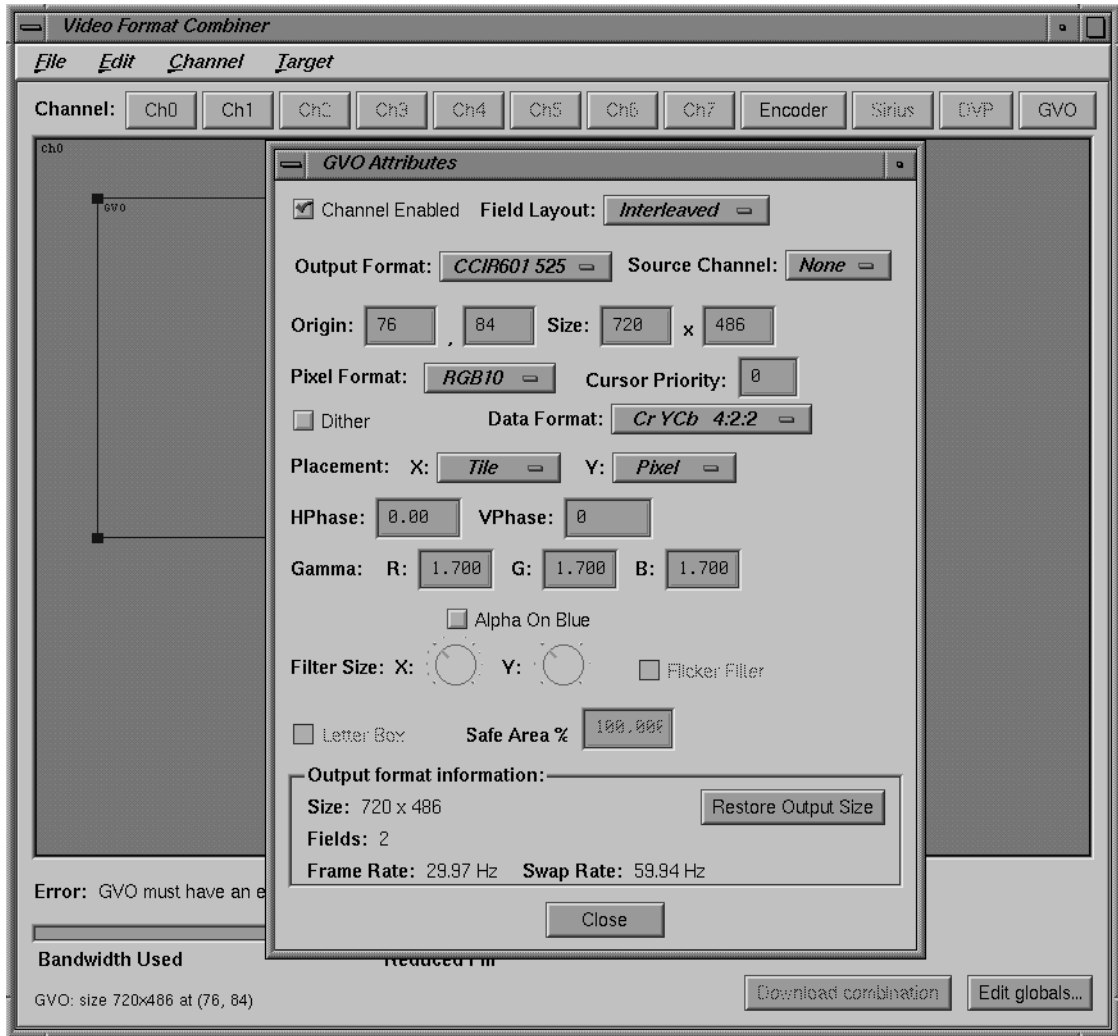

Figure D-12 GVO Attributes Window
3. Bring up the Attributes window by double-clicking the GVO button in the Combiner window, or by selecting Edit Attributes from the Channel menu. The GVO attributes window will appear (see Figure D-12). From this panel you can select a number of options for the GVO output channel. You should pay particular attention to the Output Format, Source Channel, Pixel Format, Data Format and Gamma settings on this panel. When you have selected the values you want, click the Close button.